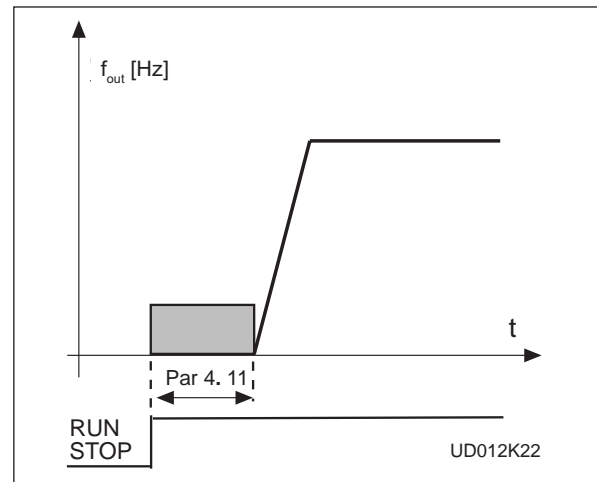

Figure 4.5-17 DC-braking time at start
- >0** DC-brake is active when the start command is given. This parameter defines the time before the brake is released. After the brake is released the output frequency increases according to the set start function parameter 4. 6 and the acceleration parameters (1. 3, 4. 1 or 4. 2, 4. 3). See figure 4.5-17.